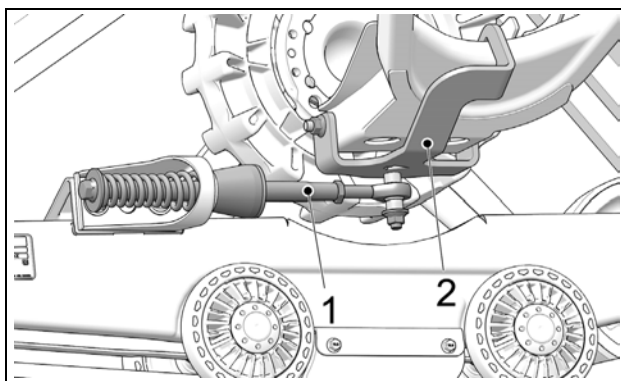

Figure 14
- Stabilizing arm (1) must be attached to rear anchor bracket (2) installed on vehicle. Figure 14.
*NOTE: Actual Rear Anchor bracket (2) mounted on vehicle may differ from the one in the illustration.*